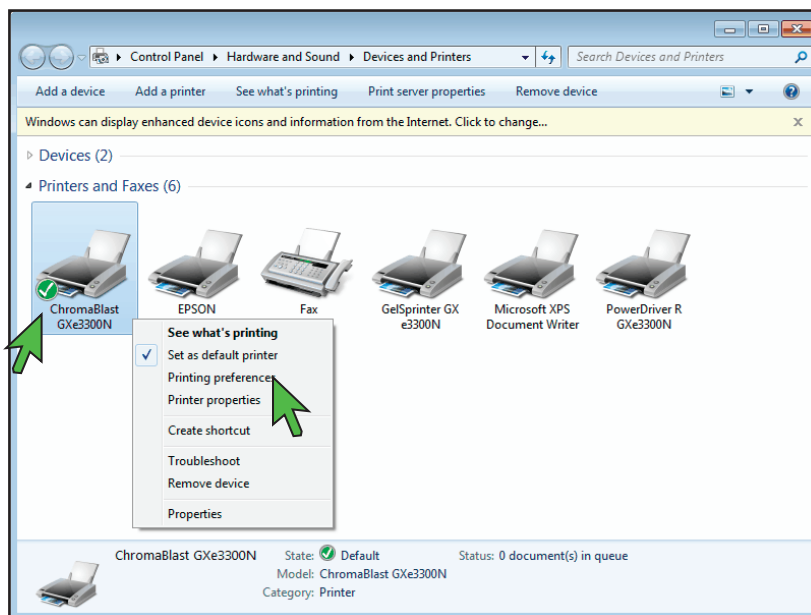

FIGURE 2
2. In the Devices and Printers folder, right-click the **ChromaBlast-R Driver GXe3300N** and select **Printing Preferences** (see *FIGURE 2*). This will open the ChromaBlast-R Driver GXe3300N Printing Preferences window (see *FIGURE 3*).